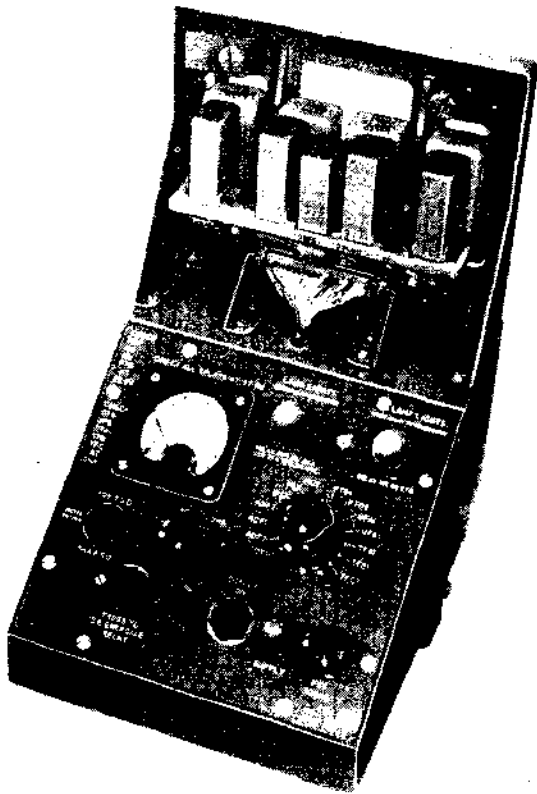

Fig. 2. Test set Type 11853 with relay unit fitted
2. The test set Type 11863 is for testing the function of the relays in the relay unit Type 11689. A general view of the test set is given in fig. 1, while fig. 2 shows the test set with a relay unit fitted and ready for test. The test set requires a supply from a source of 28V d.c.; for certain tests, this supply must be reduced to 22.5V, this can be done by connecting the variable resistor as a potentiometer across the supply. A suitable resistor is:—